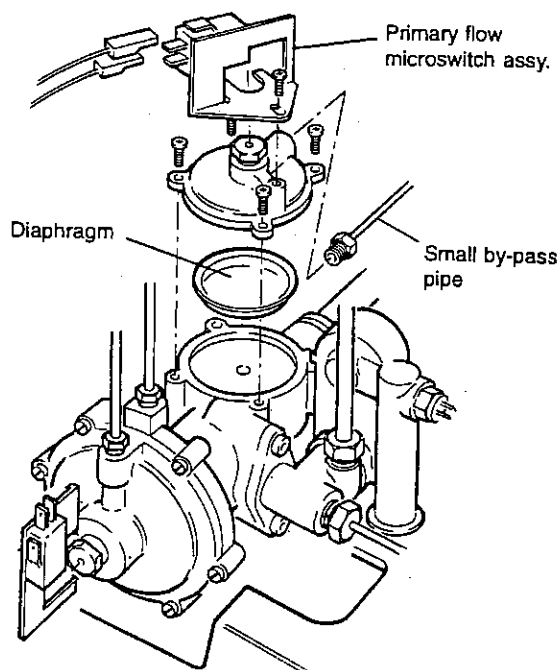

Fig. 37
8.36 PRIMARY FLOW VALVE DIAPHRAGM - Fig. 37